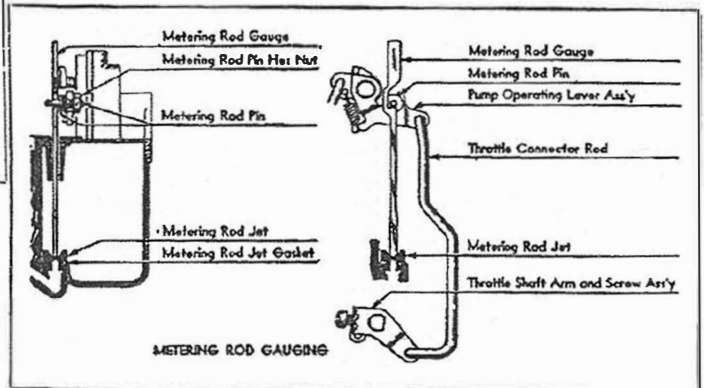

Fig. 5
- 47A. Optional Adjustment: (See Fig. 5.) Correct setting of metering rod is important and must be made after pump adjustment. Install metering pin and spring assembly, washer and nut loosely on pump operating lever. Insert gauge (tool T109-26) in